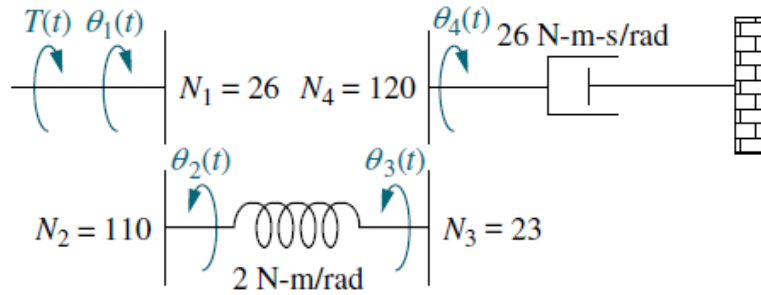

FIGURE P2.21
35. Find the transfer function, $G(s) = \theta_4(s)/T(s)$, for the rotational system shown in Figure P2.21. [Section: 2.7]